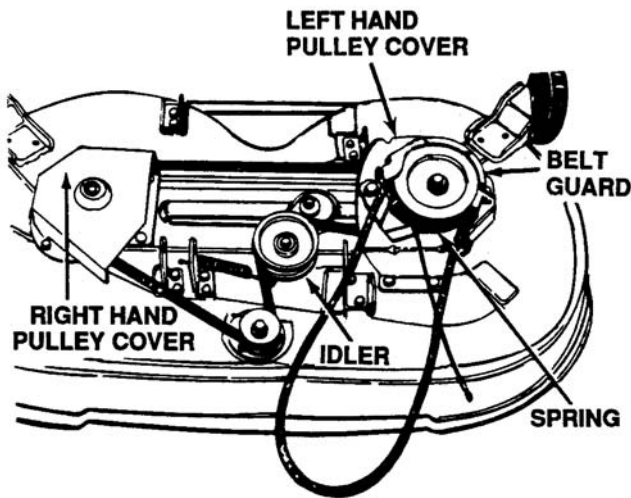

Figure 8-6. Removing Belt Guard
2. Remove belt guard by unhooking spring and removing two self-tapping screws. See Figure 8-6.